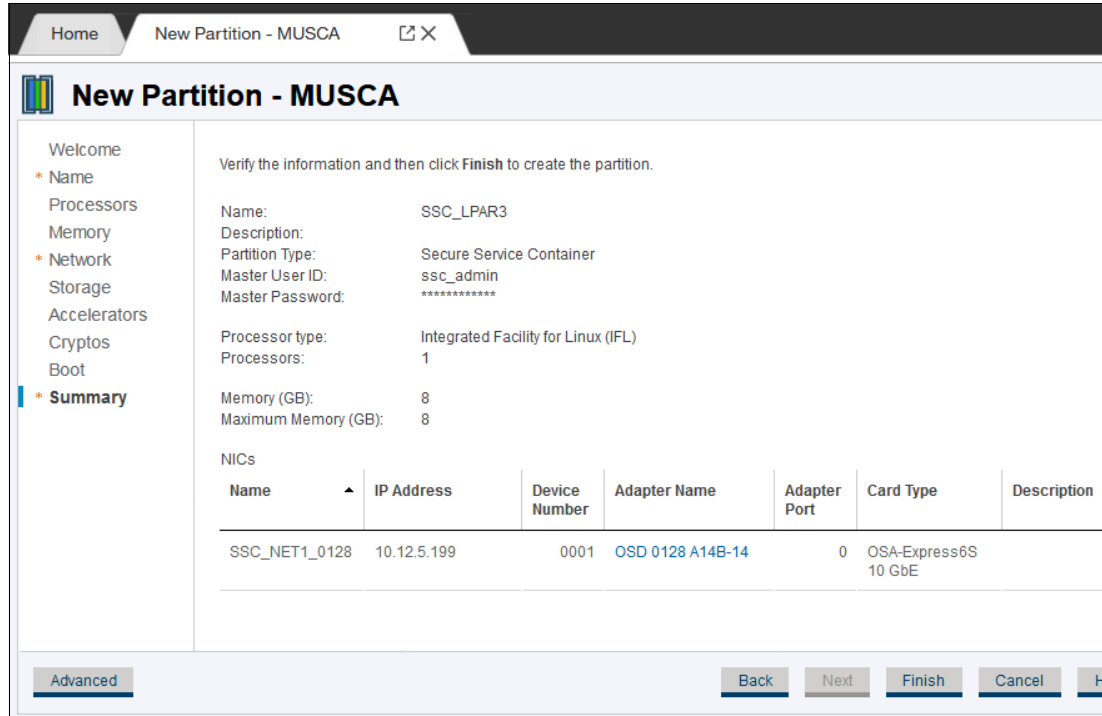

Figure 16-56 Secure Service Container partition summary
11. The summary is shown in Figure 16-56. Click **Finish** to create the partition